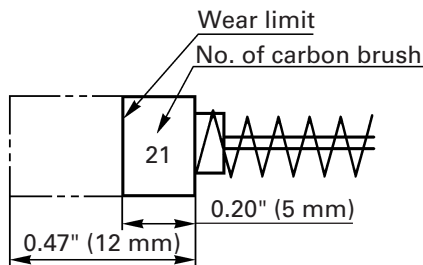

Fig. 10
4. Inspecting the carbon brushes (Fig. 10)
**NOTE:** Use HITACHI carbon brush No. 21 indicated in Fig. 10.